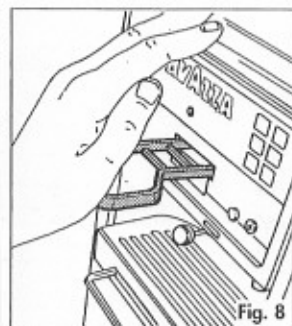

Fig. 8
- Pull back the lever and fully insert the key (A) into the pod compartment (fig. 8), ensuring the side bearing the letter A is uppermost.